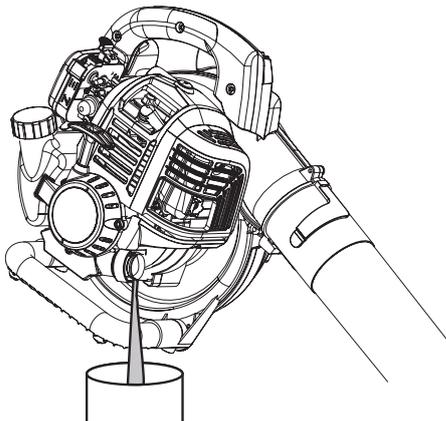

Fig. 11
3. Tip the unit vertically to pour the oil out of the oil fill hole and into a container (Fig. 11). Allow ample time for complete drainage.